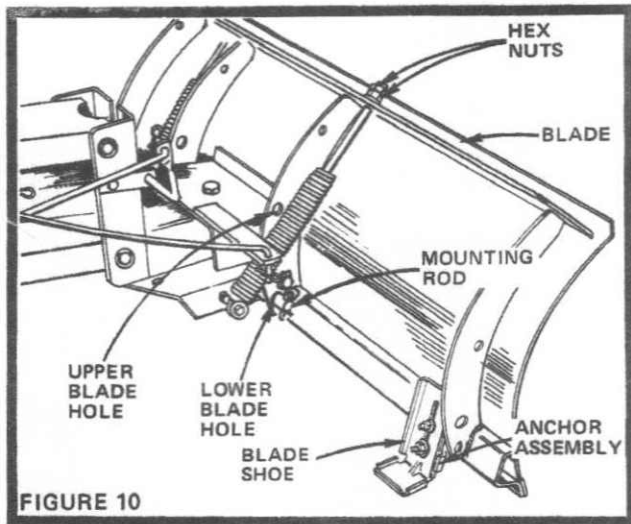

FIGURE 10
Trip Springs have been adjusted at the factory to provide only a slight tension which is all that is normally necessary. To change spring tension, adjust the Hex Nuts at the upper end of the Trip Springs (Fig. 10).
Blade Shoes on ends of Blade (Fig. 10) may be raised for close dozing on smooth surfaces, lowered to raise the Blade to work on rough or uneven areas. Make sure both Shoes and both Anchor Assemblies are set evenly and Nuts are tightened securely.
1. When moving snow or other light material, place the Mounting Rod in the Lower Blade Hole (Fig. 10). This frees the Blade to spring trip and return if a heavy obstacle is encountered. Secure with Retainer Springs.
2. When heavier material must be moved, place the Mounting Rod in the Upper Blade Hole (Fig. 10). This places the blade in rigid operating position. Secure with Retainer Springs.